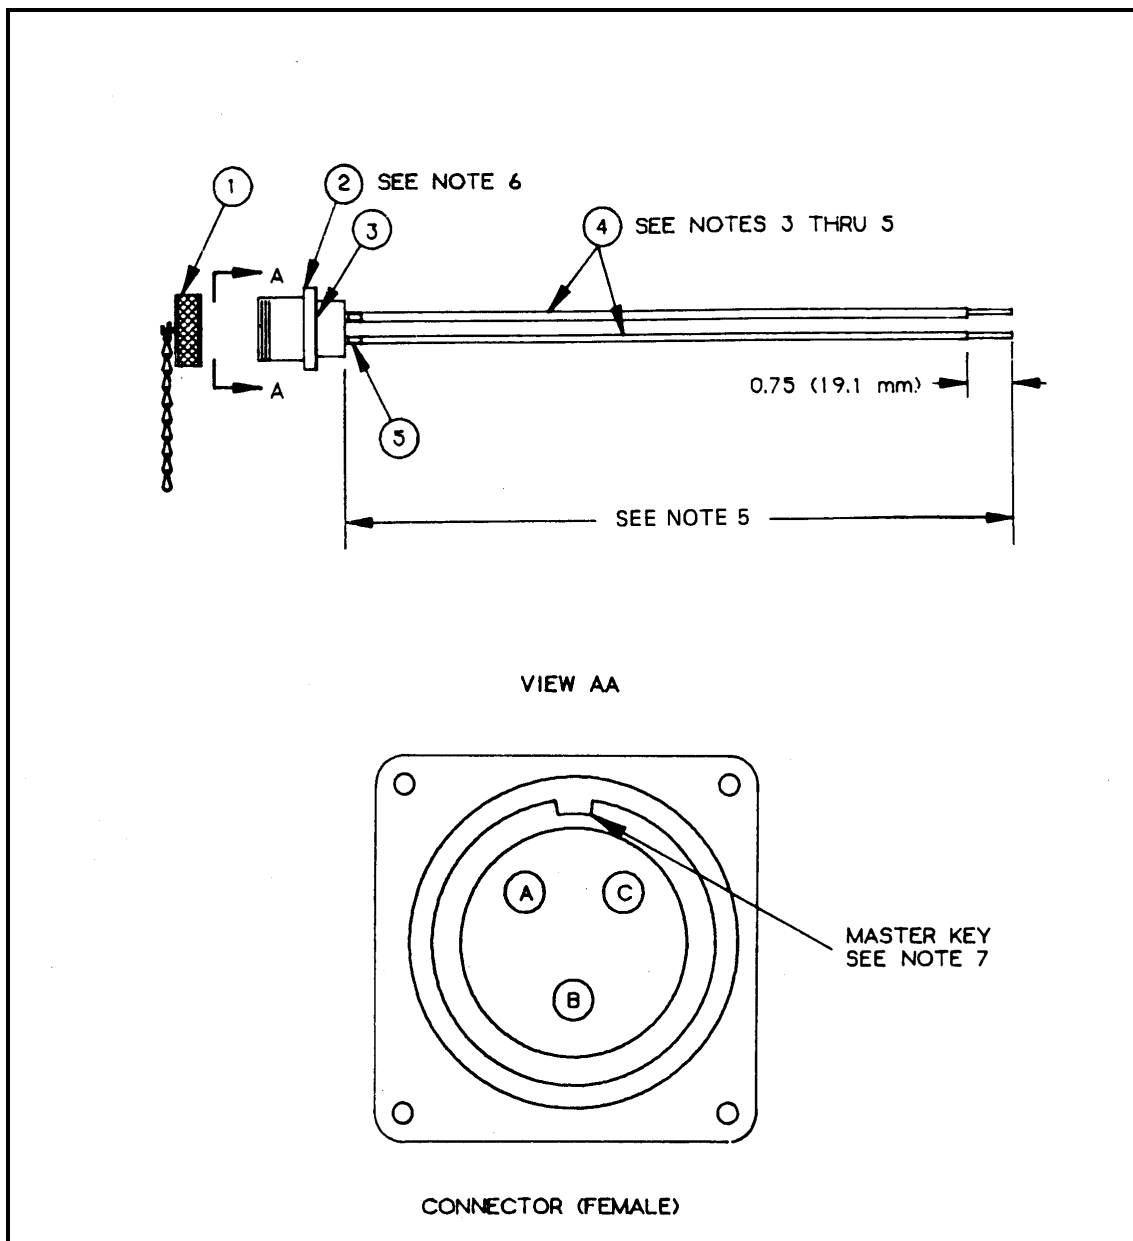

Figure F-34. M200/100 A/P (PDISE) 20-Amp, Output Connector Assemblies.
Component Legend for Figure F-34
- c. Electrical connector (Figure F-34, Item 2) is furnished with the following: